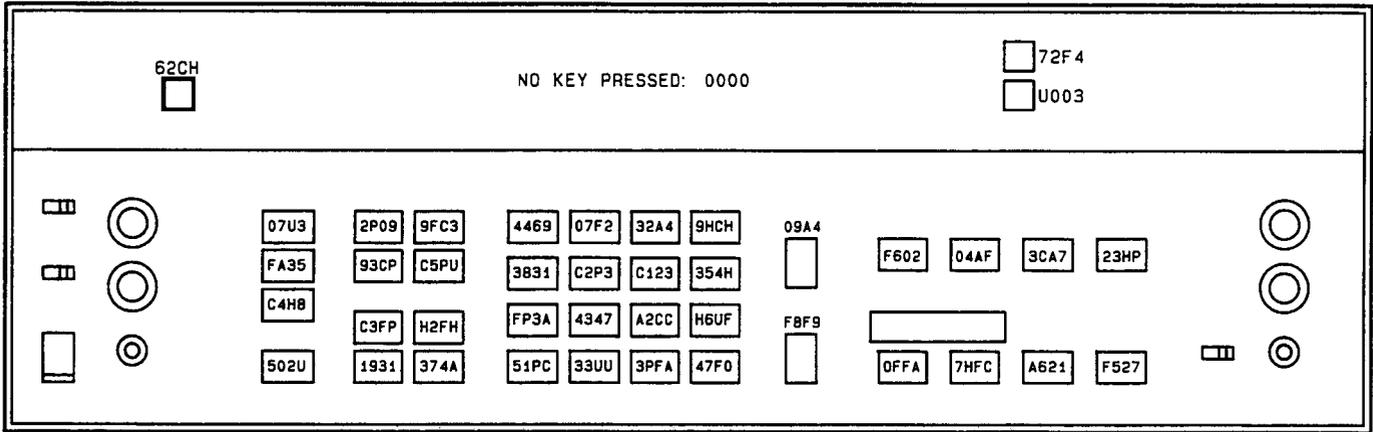

Figure 8D-7. Signatures for the Front-Panel Keys and Scanners Check, **√3** Step 6
6. Press the front-panel keys and note the signature. The signatures are documented in Figure 8D-7.